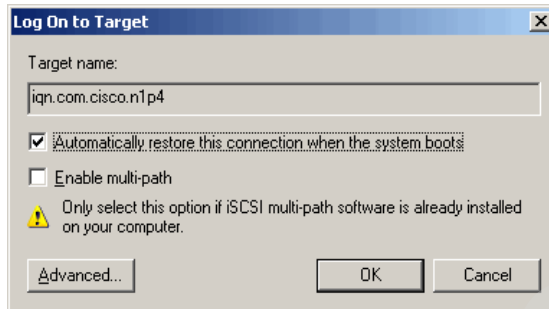

Figure 7-68 Microsoft iSCSI Initiator Log On to Target panel
4. After clicking **Log on** we are prompted for additional options (Figure 7-68). Select the check box **Automatically restore this connection when the system boots**.